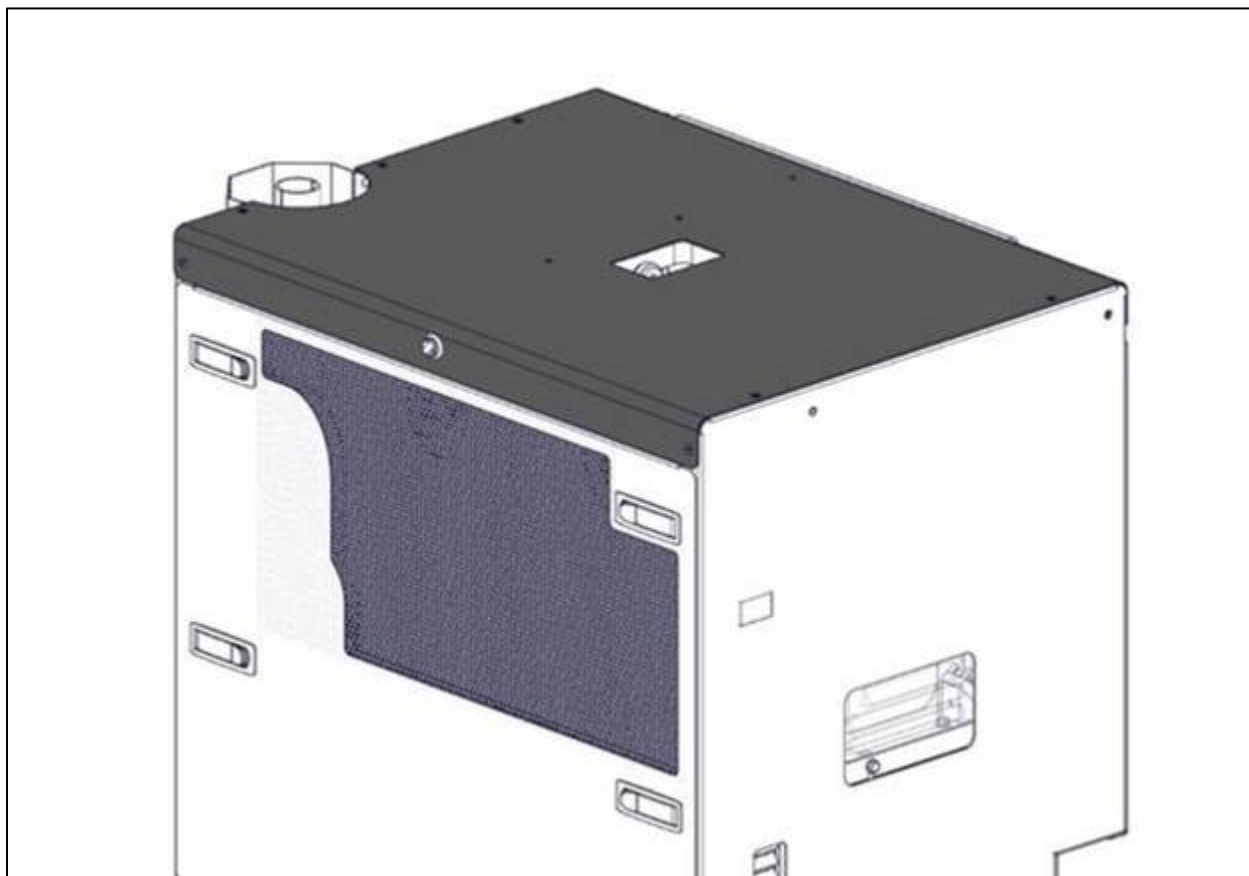

Figure 1
- ☐ Remove the top cover of the MF (Figure 1).